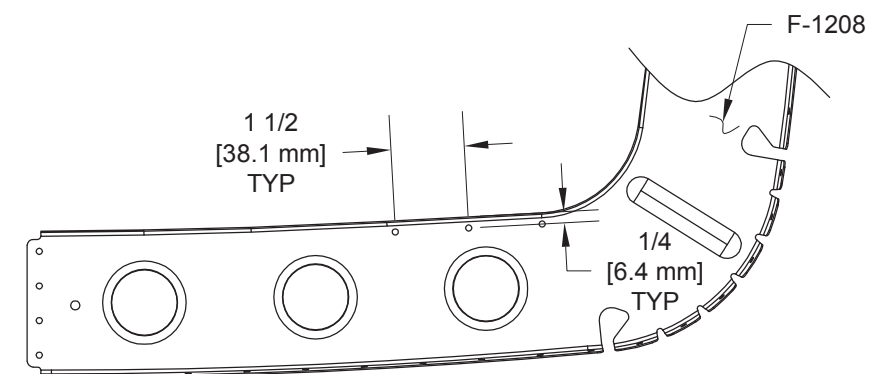

FIGURE 2: FUSELAGE FRAME TIE WRAP LOCATIONS
Step 3: Drill #30 three holes in the web of the F-1208 Fuselage Frame for tie wraps (if not already punched in part). See Figure 2.